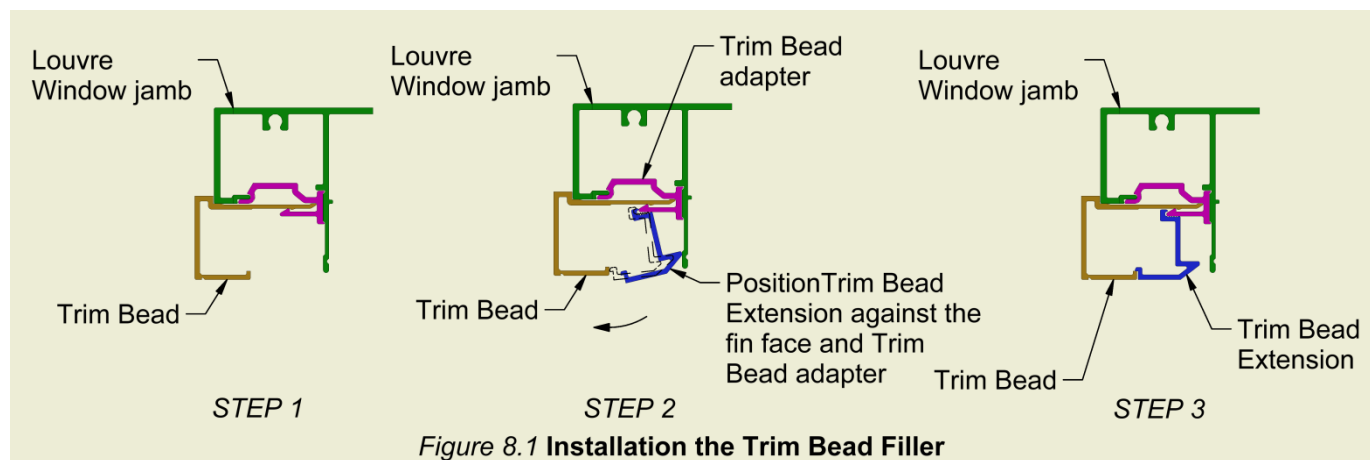

Figure 7.8
- NOTE: DO NOT SEAL THE DRAIN HOLES** as shown in **Figure 7.8**.